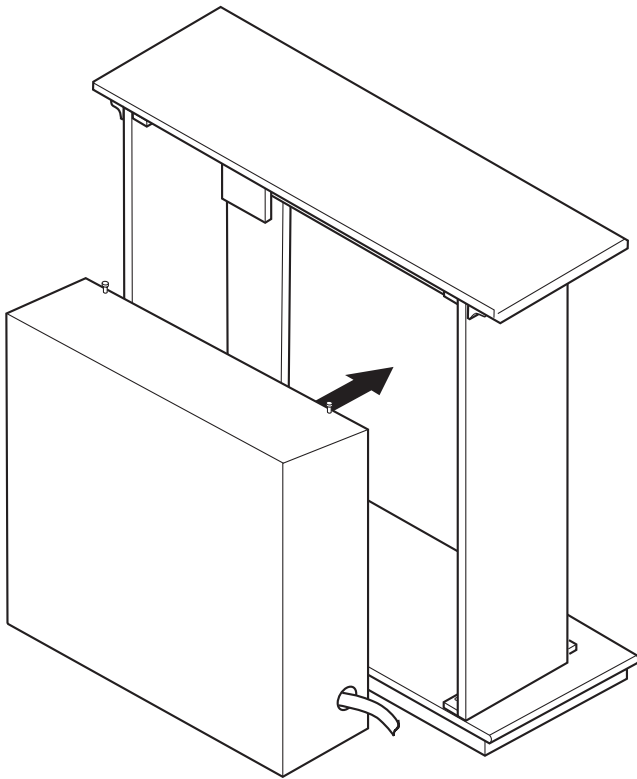

Figure 4 - Installing Gas Fireplace
5. Position fireplace inside mantel (see Figure 4). Carefully position gas lines. **IMPORTANT:** Use caution when positioning fireplace on base. Base may scratch easily. Make sure fireplace is in proper position within mantel opening before continuing with installation.